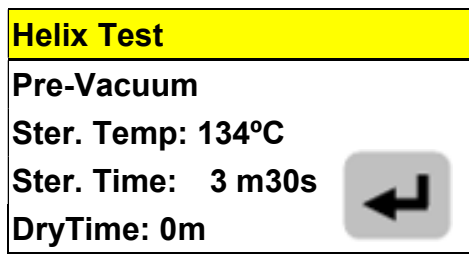

Figure 110
E. Press  button to confirm the selection of Helix Test Program, as shown in Figure 110.